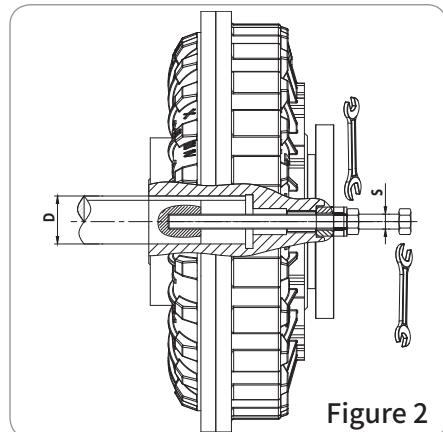

Figure 2
- 1 Mount the Fluid Coupling to the motor shaft using engaging bolts as shown in the figure 2.